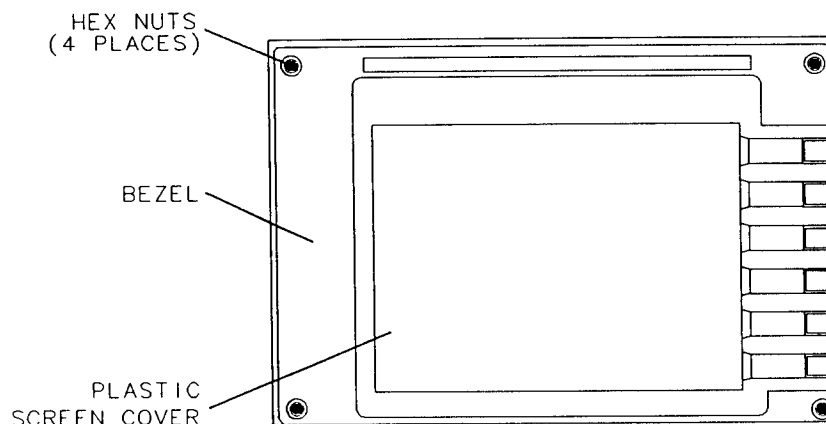

Figure 10. Removing the Bezel
2. Remove the four hex nuts that attach the bezel to the analyzer with the 3 mm hex wrench (see Figure 10).